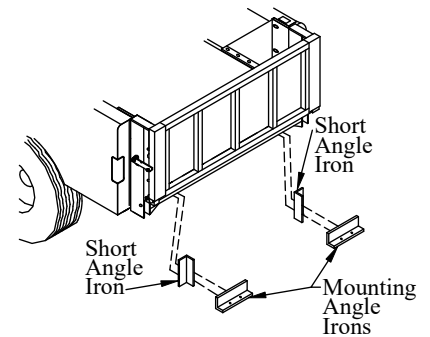

Figure 18: Lower bracket support.
- 2. Bolt** the short angle irons to the truck hitch (Figure 18),